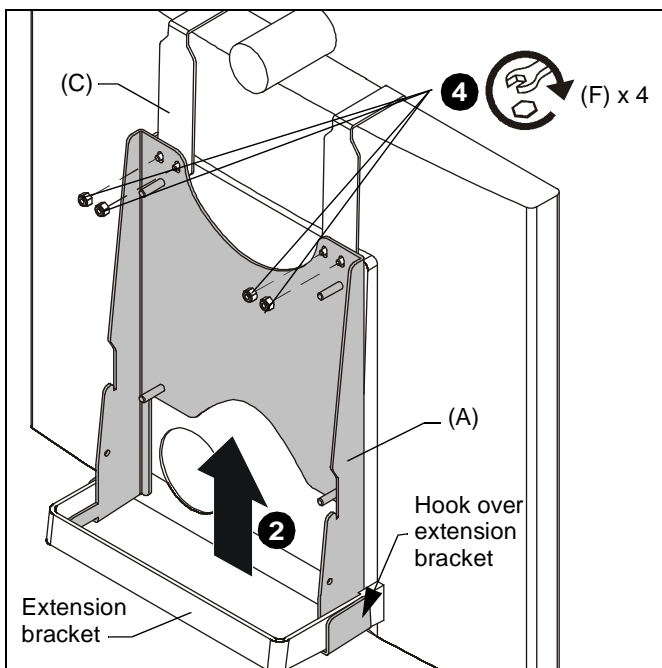

Figure 2
2. Slide interface bracket (A) up from bottom along back of display, ensuring that bottom of interface bracket hooks over square extension on back of display. (See Figure 2)
3. Hang interface bracket onto studs at bottom of clips (C). (See Figure 2)
4. Fasten interface bracket to clips using four 1/4-20 locknuts (F). (See Figure 2)